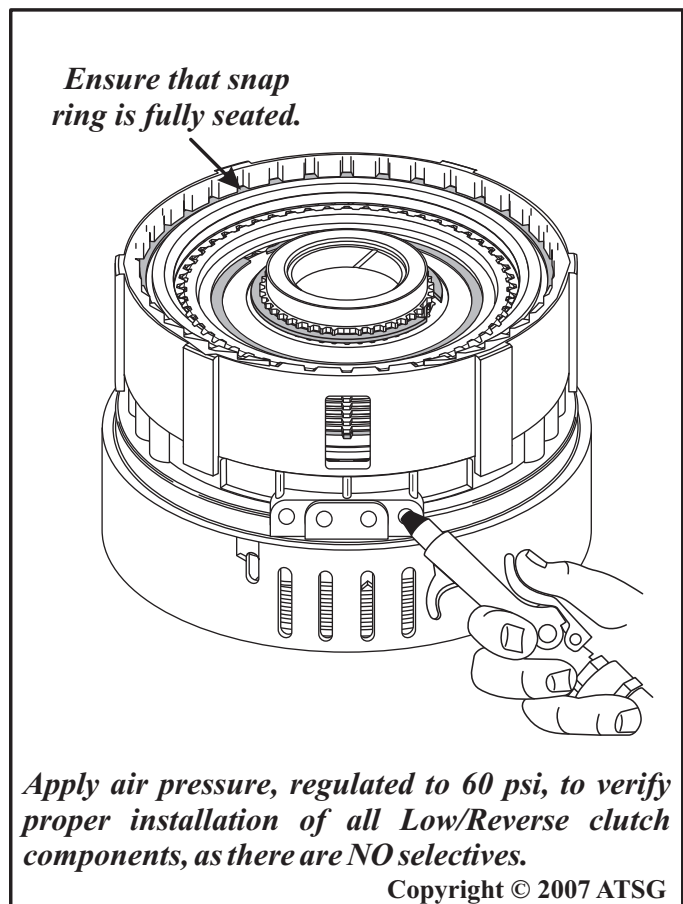

Figure 117
28. Ensure that the snap ring is fully seated and air check the low/reverse clutch to verify integrity, as shown in Figure 117.